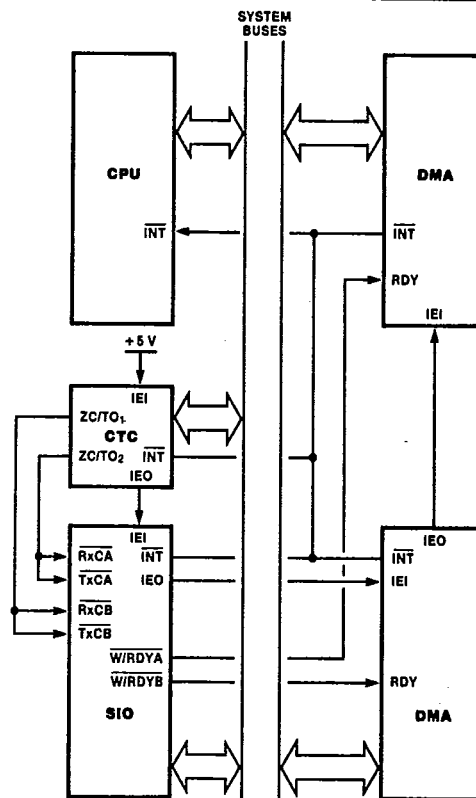

Figure 11. Typical Z80 Environment
In a Z80 CPU environment (Figure 11), SIO interrupt vectoring is "automatic:" the SIO passes its internally-modifiable 8-bit interrupt vector to the CPU, which adds an additional 8 bits from its interrupt-vector (I) register to form the memory address of the interrupt-routine table. This table contains the address of the beginning of the interrupt routine itself. The process entails an indirect transfer of CPU control to the interrupt routine, so that the next instruction executed after an interrupt acknowledge by the CPU is the first instruction of the interrupt routine itself.